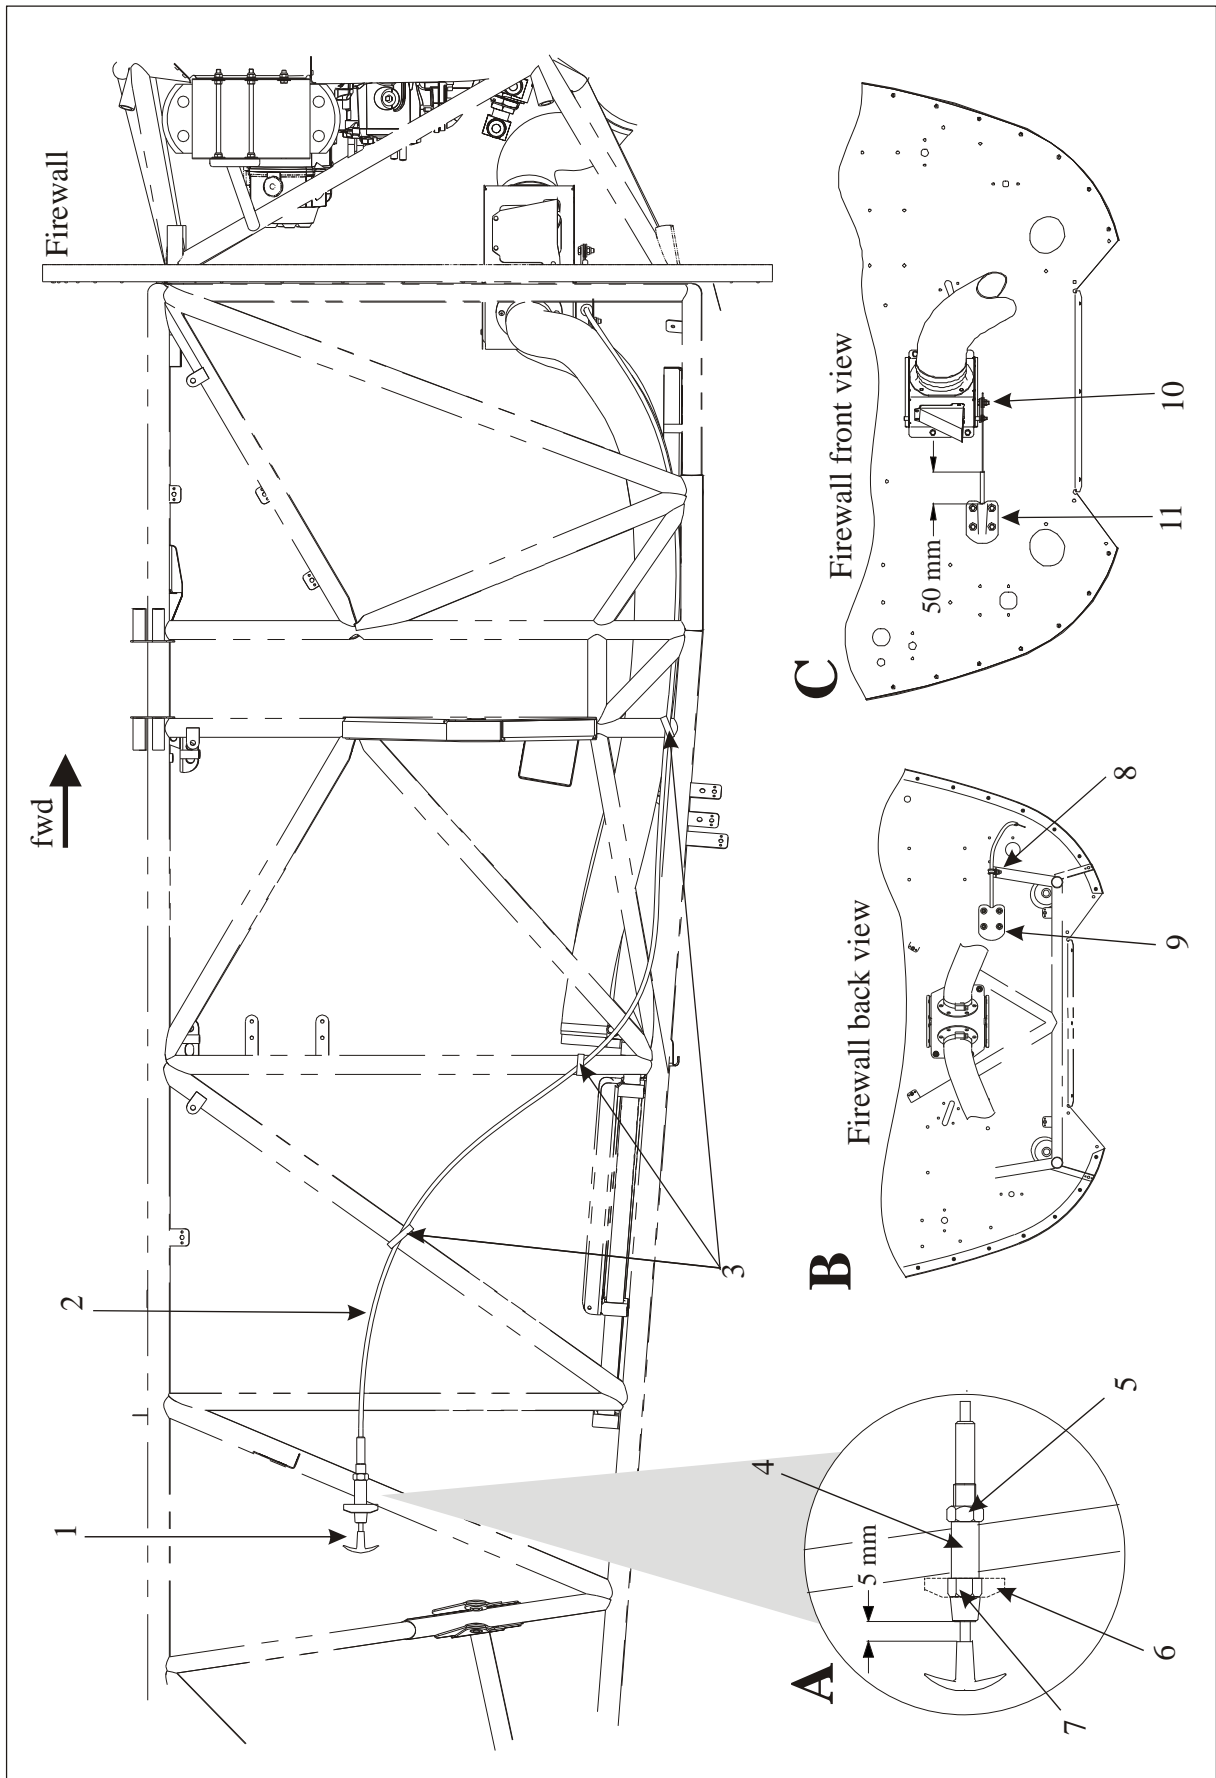

Figure 3
Refer to Figure 3.
Ensure distance of cable housing end to clamp sheet is 50 mm (refer to detail C of figure 3) when installing the clamp sheets.
- 12 Fasten the hose clamp (8).
- 14 Push control handle (1) to the full forward position. Then pull aft 5 mm (refer to detail A of figure 3).
- 15 Install the Bowden cable to the inlet box actuator (10).
- 1 Loosen Bowden cable attachment bolt on the inlet box actuator (10).
- 2 Place inlet box actuator (10) to the closed position.
- 3 Adjust main handle (1) to the full forward minus 5 mm position (refer to detail A of Figure 3).
- 4 Fasten Bowden cable attachment bolt on the inlet box actuator (10).